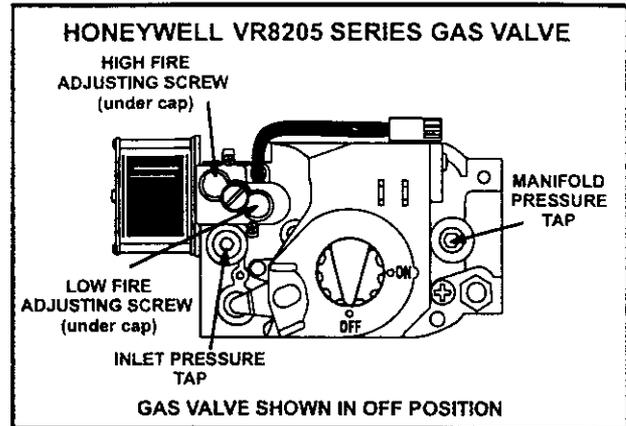

FIGURE 34
- 6 - Turn gas valve knob to OFF position. See figure 34.
- 7 - Wait five (5) minutes to clear out any gas. If you then smell gas, **STOP!** Immediately call your gas supplier from a neighbor's phone. Follow the gas supplier's instructions. If you do not smell gas go to next step.
- 2 - After line pressure has been checked and adjusted, check high heat regulator pressure. See figure 34 for gas pressure adjustment screw location. High heat manifold pressure is given in table 6.